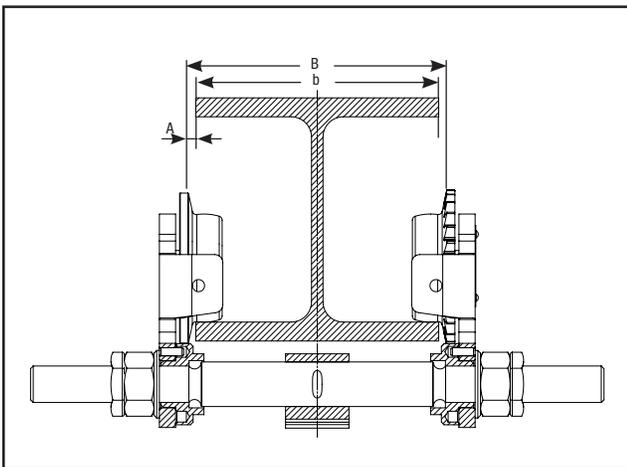

Figure 3 - Trolley Installed on I-Beam
1. Unscrew locking nuts (10) and hexagonal nuts (9) from the suspension bolt (1) and remove both side plates (2) from the trolley.
2. Measure flange width "b" of the track beam. See Figure 3.
3. Adjust or pre-adjust dimension "B" between the outer flanges of the round nuts (6) on the four free threaded ends of the suspension bolts (1). Make sure that the four drill holes in the round nuts face outwards. Select dimension "B" between the outer flanges of the round nuts on the suspension bolts in such a way that it corresponds to flange width "b" plus 4 mm. Ensure that the suspension bar (4) is centered between the round nuts (6).
4. Assembly of one side plate: The roll pins (7) fitted to the side plate (2) must be seated in one of the four drill holes of the round nuts (6). If necessary the position of the round nuts must be slightly re-adjusted.
5. Position the washer (8) and tighten the hexagonal nuts (9). Finally screw on the locking nuts (10) by hand and tighten by 1/4 to 1/2 rotation.
| Measure the actual beam flange on which the trolley hoist is to operate and use Figure 3 to determine the arrangement of the spacer washers for that flange width. |